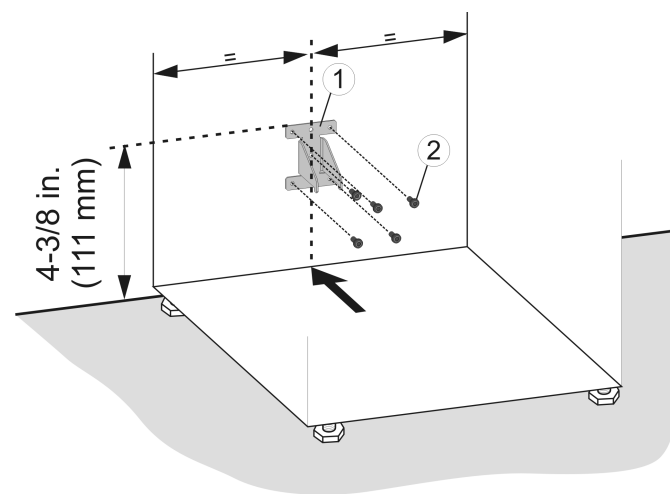

Fig. 12
- ▶ Install the anti-tip device Fig. 12 (1) using appropriate screws Fig. 12 (2).